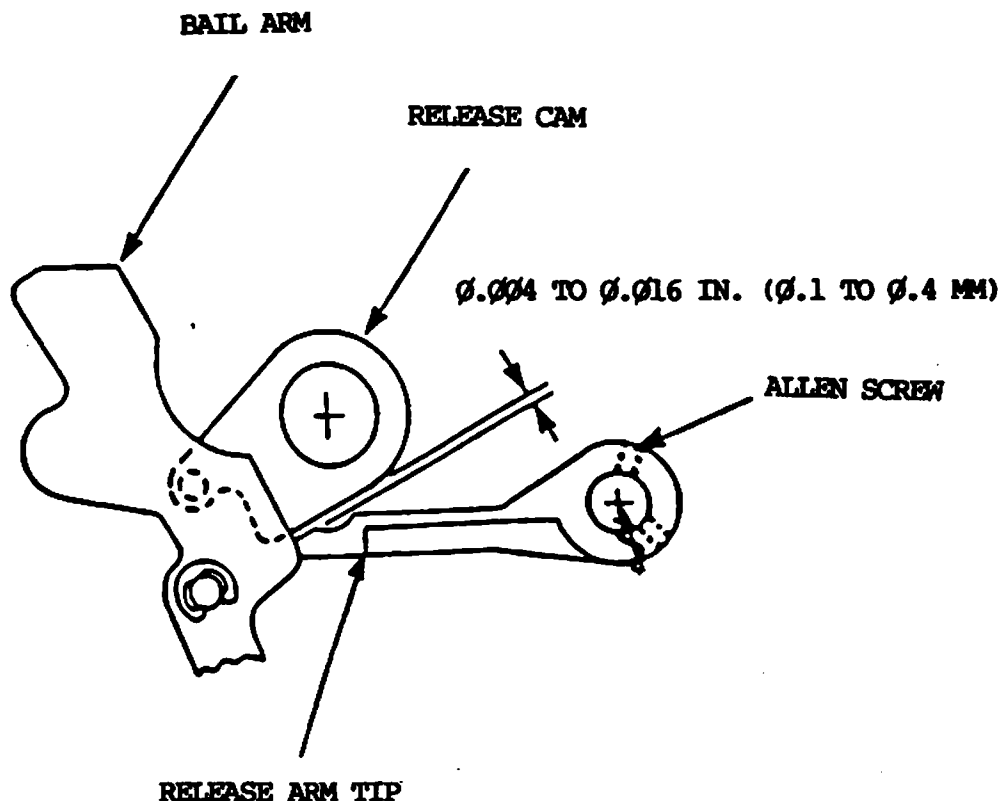

Figure 4-6 Release Arm Adjustment
2. Set the bail arm to the open position as shown in Figure 4-6.